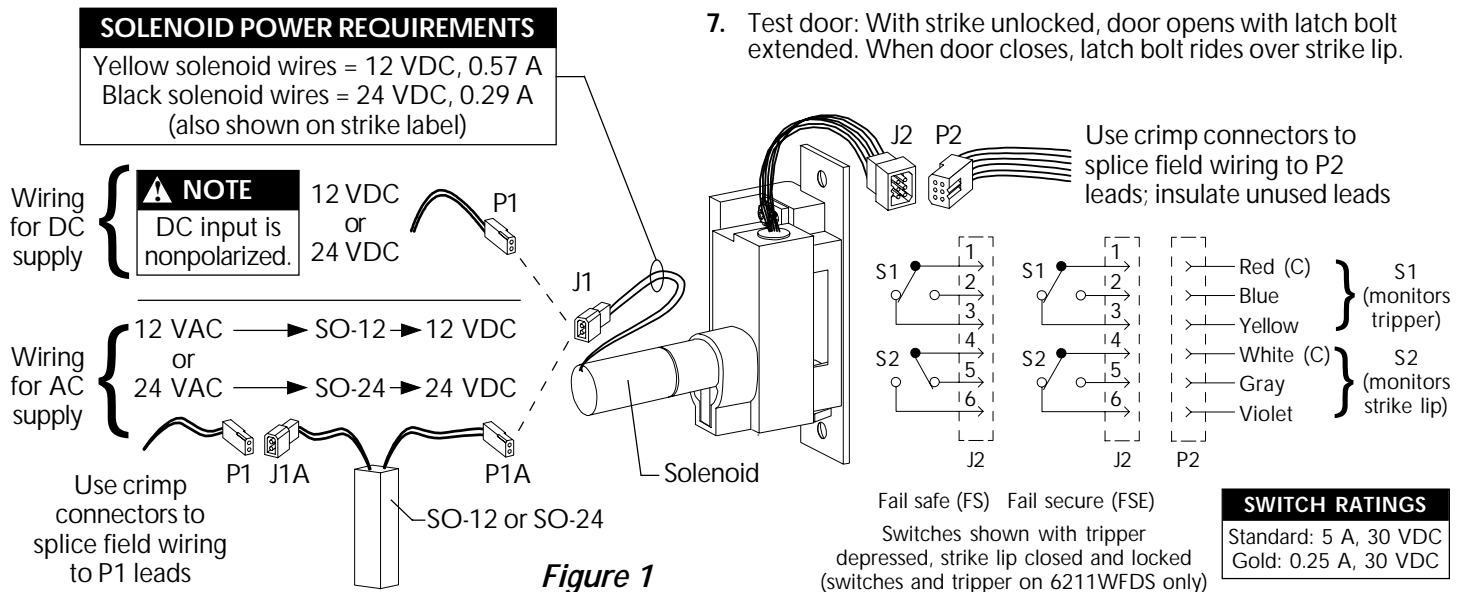

Figure 1
3. Wire strike (Figure 1). (Switches on 6211WFDS only.)
4. Test strike: Apply solenoid power. Fail secure (FSE) lip unlocks. Fail safe (FS) lip locks. Figure 1 shows status of switches.